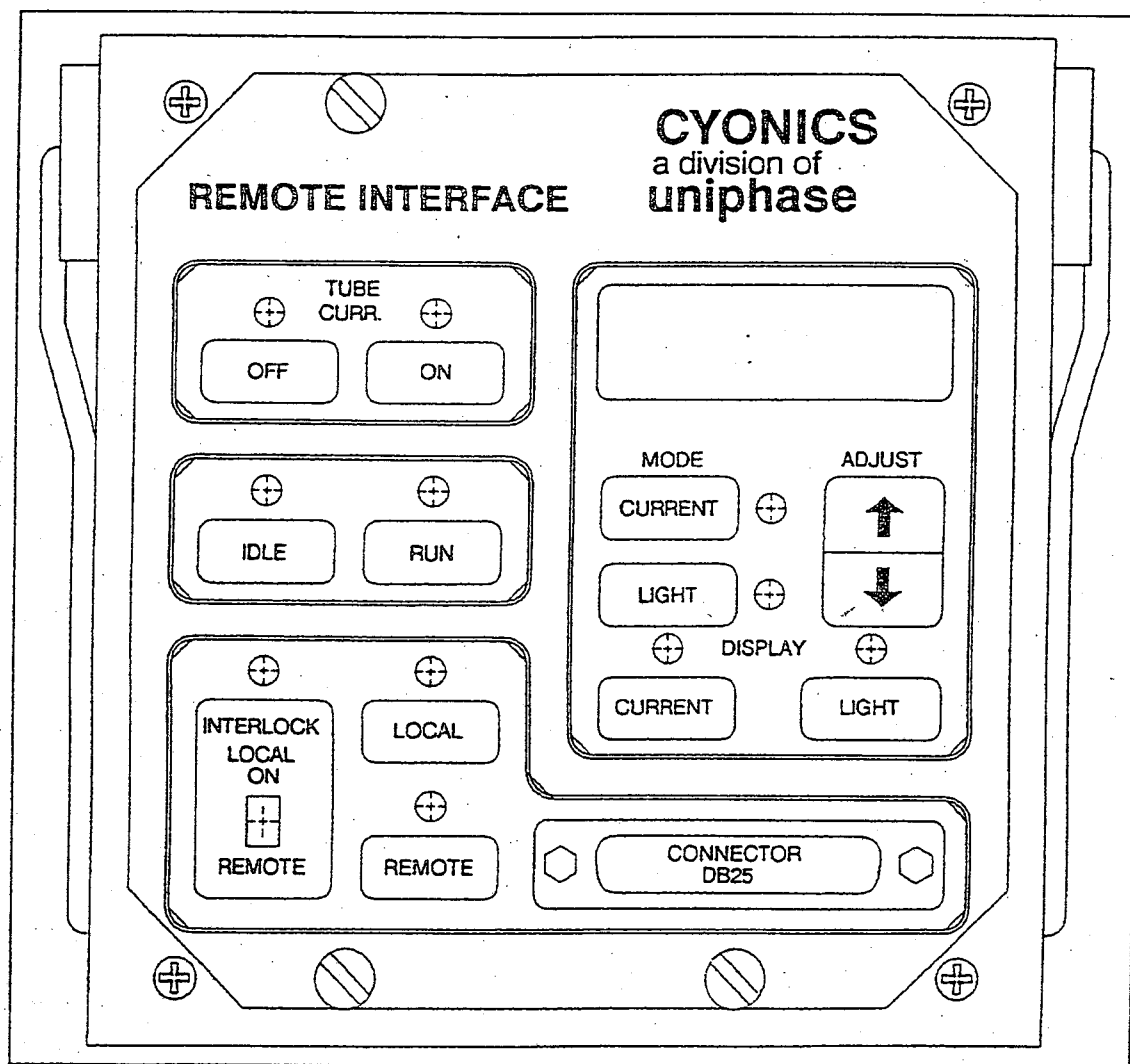

Figure 3-2. Remote Interface Front Panel
5. At the remote interface, under TUBE CURR., push ON. (See figure 3-2).